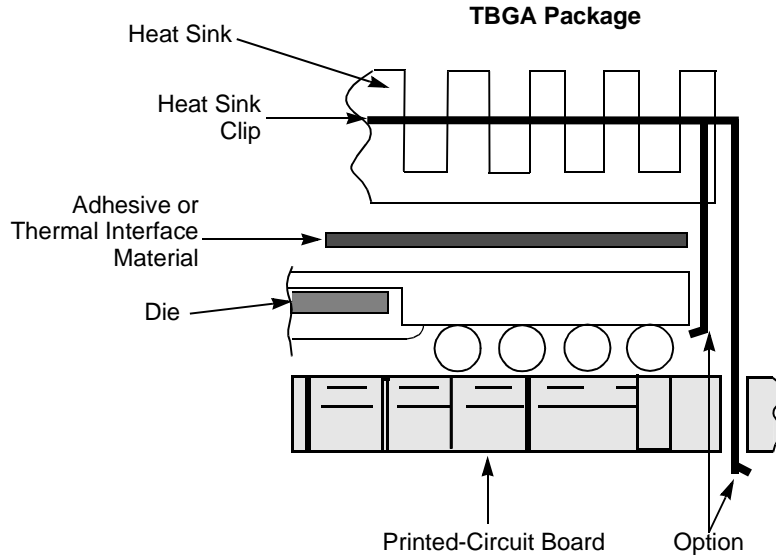

Figure 26. Package Exploded Cross-Sectional View with Several Heat Sink Options
This section provides thermal management information for the tape ball grid array (TBGA) package for air-cooled applications. Proper thermal control design is primarily dependent on the system-level design—the heat sink, airflow, and thermal interface material. To reduce the die-junction temperature, heat sinks may be attached to the package by several methods: adhesive, spring clip to holes in the printed-circuit board, or package and mounting clip and screw assembly. See Figure 26.
The intrinsic conduction thermal resistance paths for the TBGA, cavity-down, packaging technology shown in Figure 26 are as follows:
Heat sinks are attached to the package by means of a spring clip to holes in the printed-circuit board (see Figure 26). Therefore, the synthetic grease offers the best thermal performance, considering the low interface pressure. Of course, the selection of any thermal interface material depends on many factors: thermal performance requirements, manufacturability, service temperature, dielectric properties, cost, and so on.
0.6	<p>Updated Technology in Section 1.3 from 0.32 to 0.29 μm.</p> <p>Updated Notes in Table 2. Changed line 2 to reflect supply voltage wording of the other lines. Changed notes 2 and 3 to include all LVDD input tolerant signals.</p> <p>Updated Table 4 eliminating LVDD = 5.0 V entries for DRV_PCI. Changed LVDD to OVDD for remaining DRV_PCI entries. Updated notes.</p> <p>Updated Table 6 to show minimum memory bus operating frequency is 33 MHz.</p> <p>Updated Table 8 with new characterization data for numbers 22 and 23.</p> <p>Updated Table 8 adding 'In-line' to 'Registered' in Spec 10b2.</p> <p>Updated Table 9 to Table 10 to how changes for $\overline{\text{MCP}}$ and CKE reset configuration changes for PCI_HOLD_DEL.</p> <p>Updated Table 12 eliminating 25 MHz column since memory interface does not operate at this frequency.</p> <p>Updated Table 17:</p> <ul style="list-style-type: none"> • REQ4/DA4 and PLL_CFG[0:4]/DA[10:6] changed Pin Type from Input to I/O. • DA2, DA[11:13], DA[14:15] changed Pin Type from I/O to Output. • Reversed vector ordering for the PCI Interface Signals: $\overline{\text{C/BE}}[0:3]$ changed to $\overline{\text{C/BE}}[3:0]$, AD[0:31] changed to AD[31:0], $\overline{\text{GNT}}[0:3]$ changed to $\overline{\text{GNT}}[3:0]$, and $\overline{\text{REQ}}[0:3]$ changed to REQ[3:0]. The package pin number orderings were also reversed meaning that pin functionality did NOT change. For example, AD0 is still on signal C22, AD1 is still on signal D22, ... AD31 is still on signal V25. This change was made to make the vectored PCI signals in the MPC8240 Hardware Specification consistent with the PCI Local Bus Specification and the MPC8240 User Manual vector ordering. • Deleted Note 19 indicating LAVDD and AVDD are internally connected. Added a new Note 19 about OSC_IN and EPIC control signals input voltage levels. <p>Updated Section 1.7.1, eliminating references to LAVDD and AVDD being internally connected.</p> <p>Updated Table 23 changing 2-kΩ pull-up resistor on VDD_SENSE to 1-kΩ.</p> <p>Moved Section 1.7.7 to be at end of JTAG section.</p> <p>Changed erroneous C4 reference in Figure 26 title to TBGA.</p> <p>Deleted references to FLOTHERM models in Section 1.7.8.3.</p>